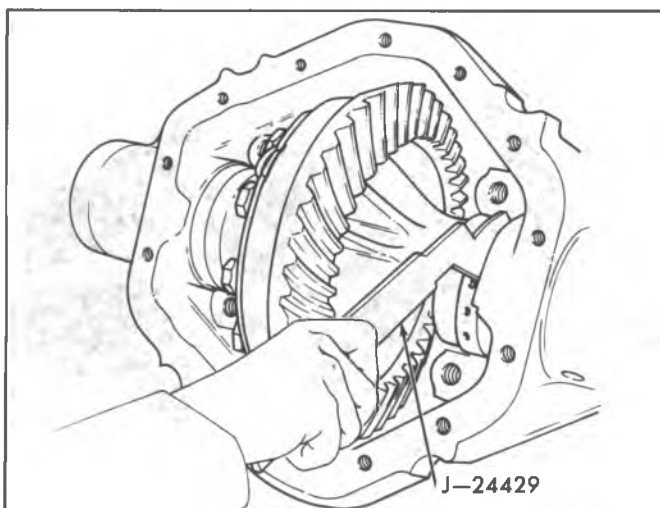

Fig. 12B--Loosening Adjusting Nut
4. Tighten adjusting nut using tool J-24429 and rotate pinion to seat bearings as shown in Fig. 12B.